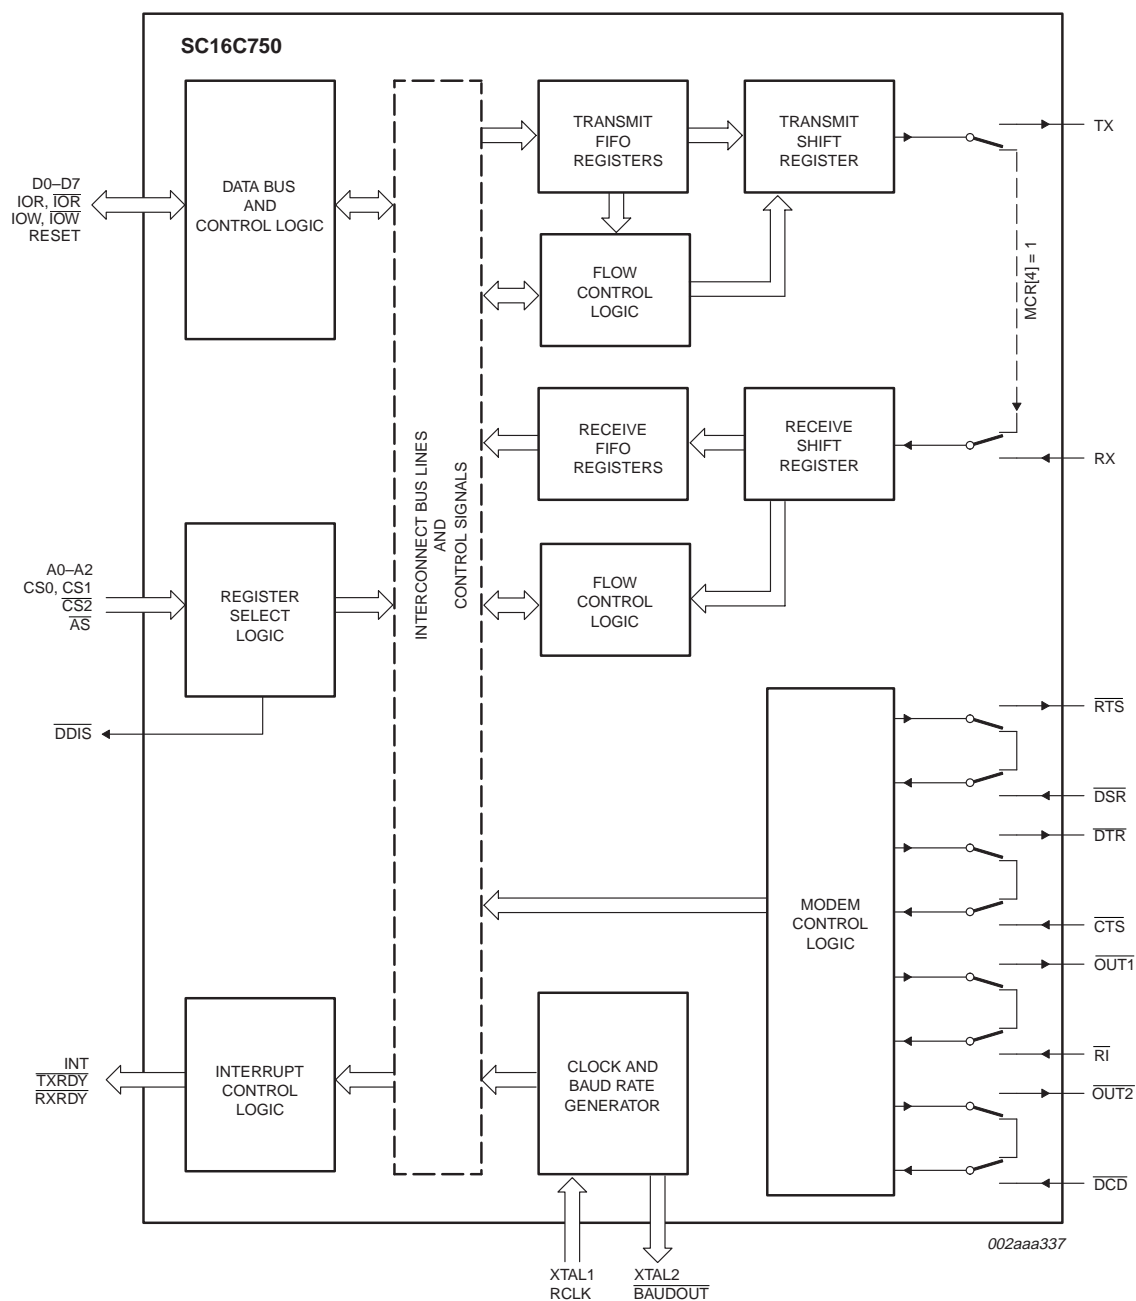

Fig 5. Internal loop-back mode diagram.
The internal loop-back capability allows on-board diagnostics. In the loop-back mode, the normal modem interface pins are disconnected and reconfigured for loop-back internally. MCR[0-3] register bits are used for controlling loop-back diagnostic testing. In the loop-back mode, OUT1 and OUT2 in the MCR register (bits 2-3) control the modem $\overline{\text{RI}}$ and $\overline{\text{DCD}}$ inputs, respectively. MCR signals $\overline{\text{DTR}}$ and $\overline{\text{RTS}}$ (bits 0-1) are used to control the modem $\overline{\text{CTS}}$ and $\overline{\text{DSR}}$ inputs, respectively. The transmitter output (TX) and the receiver input (RX) are disconnected from their associated interface pins, and instead are connected together internally (see Figure 5). The $\overline{\text{CTS}}$, $\overline{\text{DSR}}$, $\overline{\text{DCD}}$, and $\overline{\text{RI}}$ are disconnected from their normal modem control input pins, and instead are connected internally to $\overline{\text{DTR}}$, $\overline{\text{RTS}}$, OUT1 and OUT2. Loop-back test data is entered into the transmit holding register via the user data bus interface, D0-D7. The transmit UART serializes the data and passes the serial data to the receive UART via the internal loop-back connection. The receive UART converts the serial data back into parallel data that is then made available at the user data interface D0-D7. The user optionally compares the received data to the initial transmitted data for verifying error-free operation of the UART TX/RX circuits.